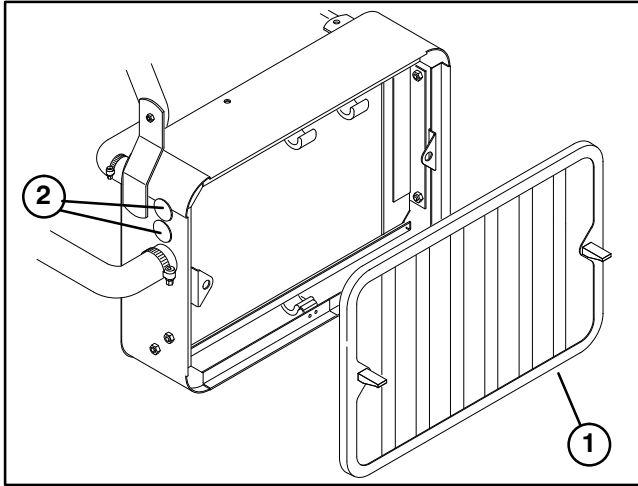

Figure 4
6. Remove radiator screen (Fig. 4).
7. Remove (2) plastic plugs from side of radiator (Fig. 4).